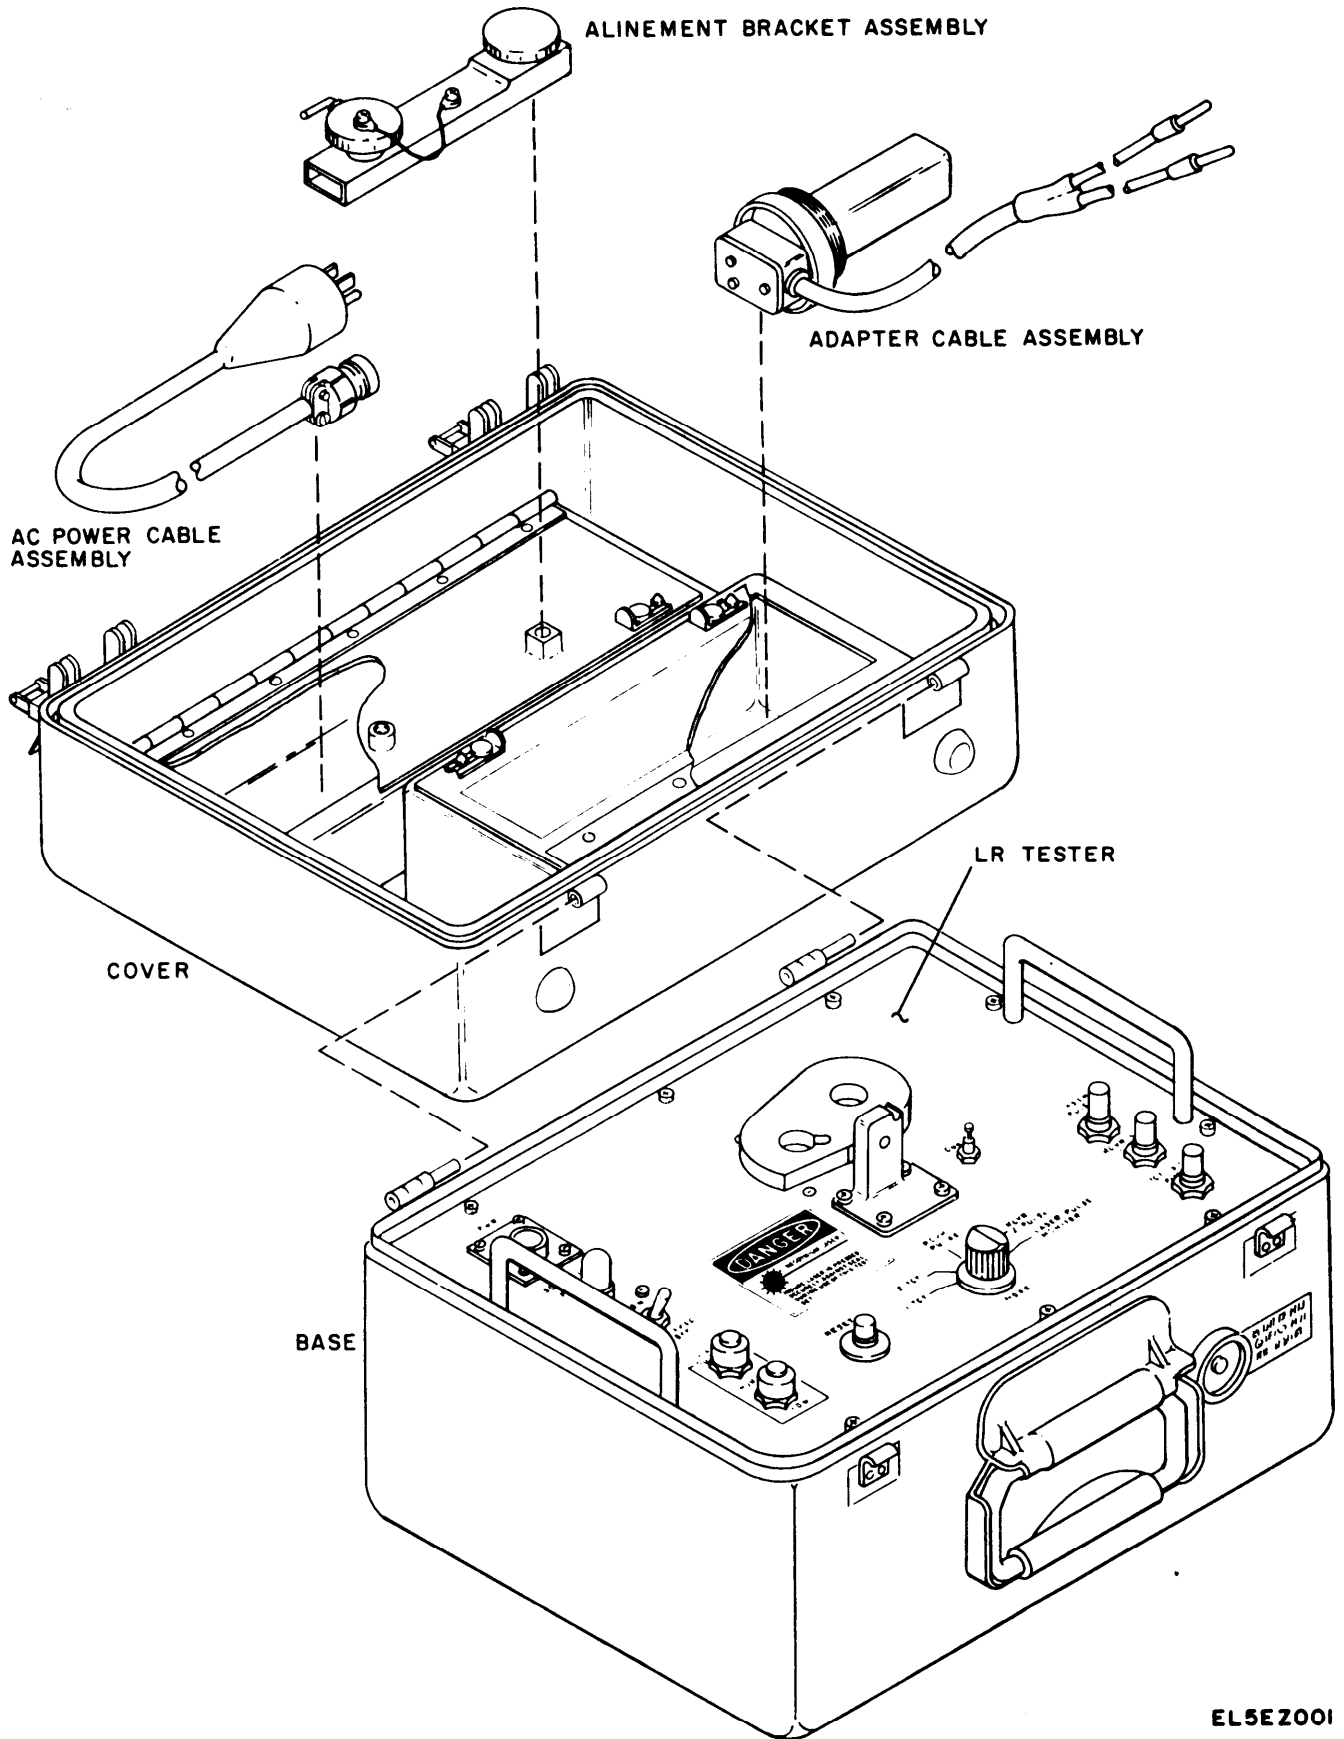

Figure 1-1. LR Test Set.
The LR Test Set (fig. 1-1) is a portable, self-contained unit housed in a combination transit and
(Fig. 1-1)
*a.* The LR Test Set can be located on any flat surface within reach of a suitable power outlet. Remove cover (fig. 1-1). Remove the alignment bracket assembly from the cover and install it on the front panel (fig. 2-1).
*b.* Remove the ac power cable assembly (fig. 1-1) from the cover and connect it to the PWR 115V, 50-420 HZ connector on the front panel. Connect the power cable assembly to the 115 vac source.